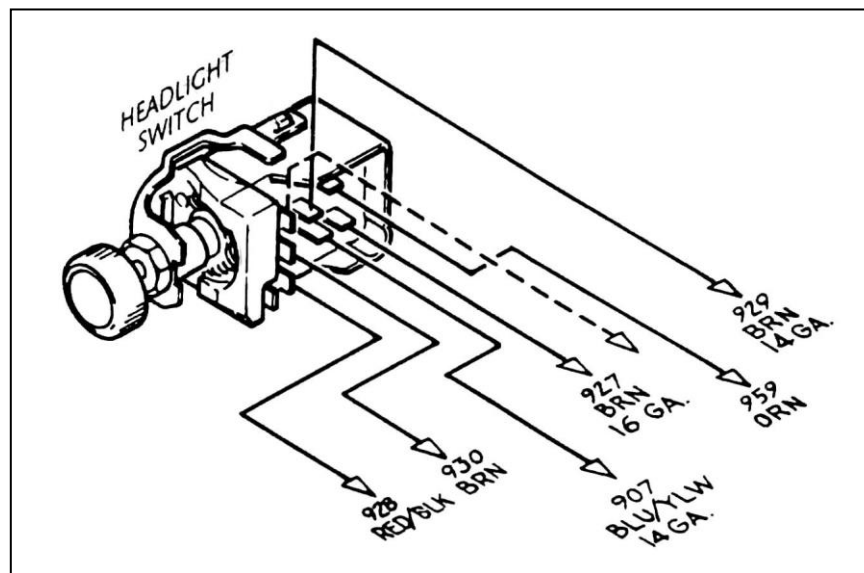
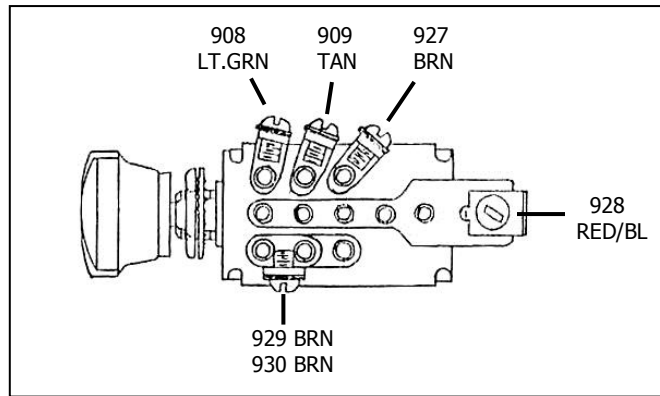

Figure 10-6A GM Style Headlight Switch (Painless Part#80152)
Figure 10-6B Headlight Switch with High/Low Control (**Painless Part #80154**)
10.5 HEADLIGHT SECTION B Wiring. See Figures 10-6A & 10-6B.
10.5.1 Connect the 6 wires of HEADLIGHT SECTION B as shown in the following figures. If you do not have a GM style headlight switch (**Figure 10-6A**) or the headlight switch with high/low control (**Figure 10-6B**), you should trace out the wires of your existing harness and connect the new harness according to **Table 11-2**.
Note: On late-style GM headlight switches, the park lights terminal to which wire #927 (brn) is connected (shown in **Figure 10-6A**) has been omitted. In this case, wire #927 must be connected as indicated by the dashed line in **Figure 10-6A**.